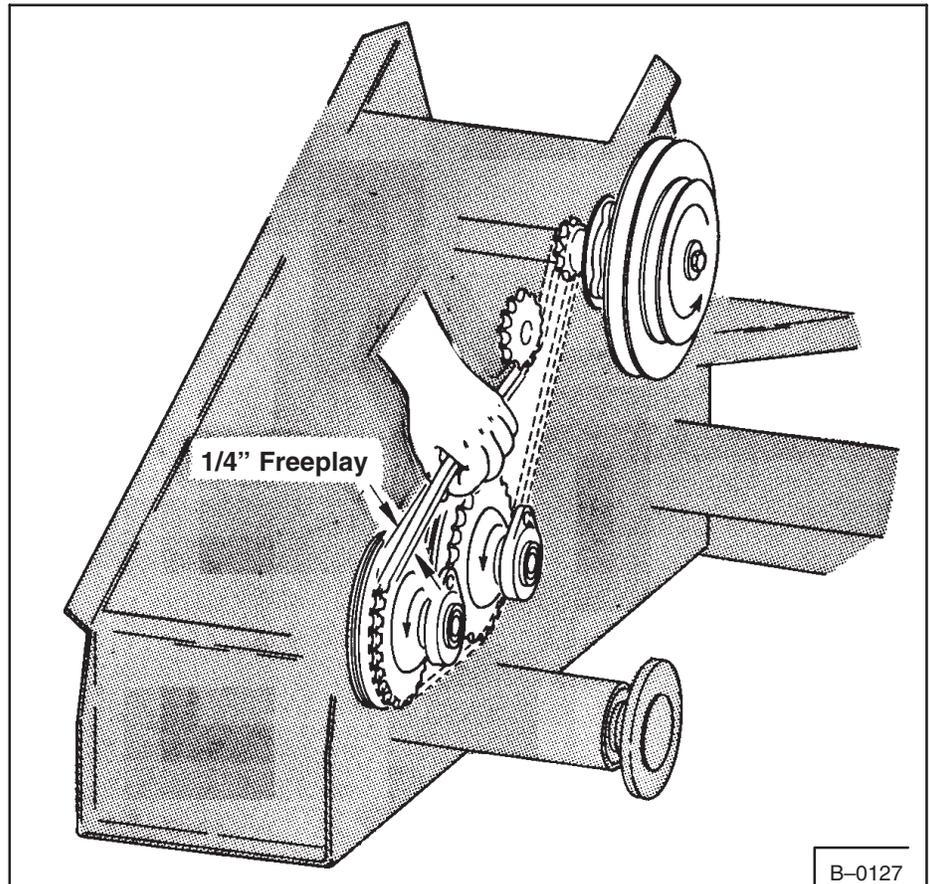

Fig. 28 Outside Clutches & Chain
The Bobcat has two separate drive trains (located beside each other in the transmission case). Each drive train uses two clutches. Power is transmitted from the engine to the upper jackshaft by a belt. The upper jackshaft drives the outside clutches using a No. 40 roller chain (Fig. 28).
4. Check the tension of the outside clutch chains (Fig. 28). They should have a minimum of 1/4" freeplay at the high spot on the sprocket with slight finger pressure. The outside clutch chain idler sprockets are adjusted from outside of the machine (Fig. 33, Item 2). To adjust, loosen the 5/8" nut and move the idler until desired tension is set. Tighten the nut to 60 ft.-lbs. torque.